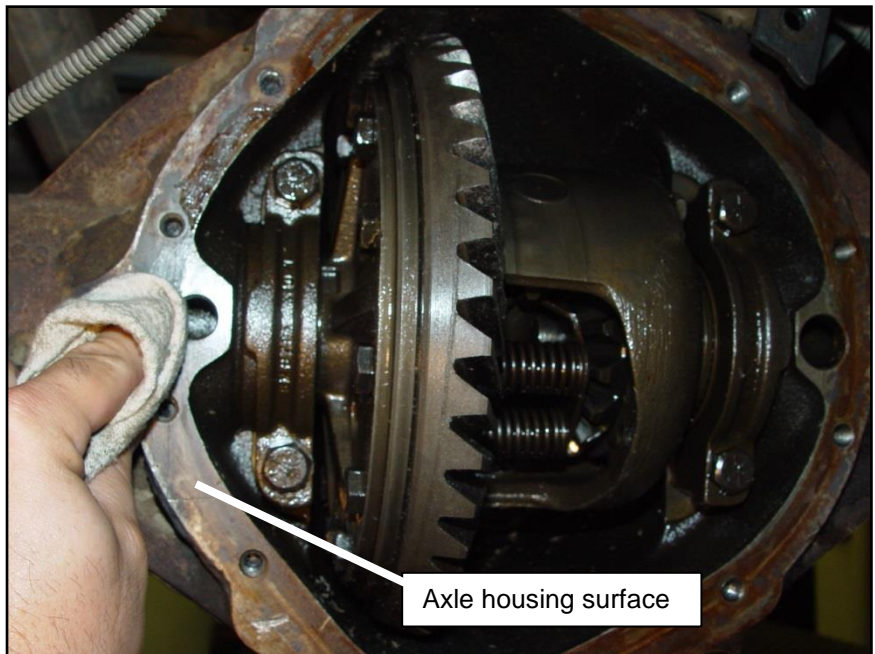

Figure 2
STEP 8. Clean all gasket material from the axle housing surface (**See Figure 2**).